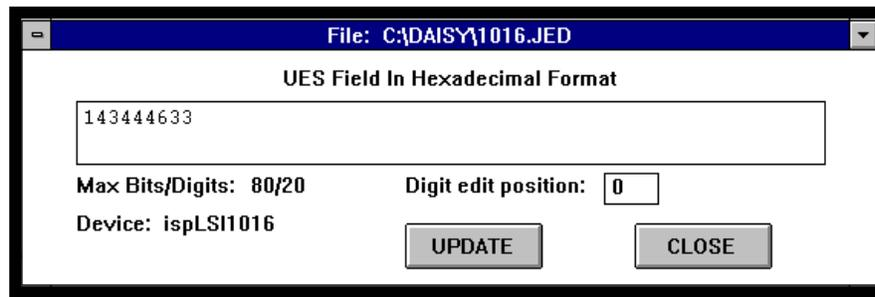

Figure 3-20. JEDEC File with UES Dialog Box
2. Select a .jed file. Choose the directory and file type. Click **OK**. The UES dialog box appears (Figure 3-20).